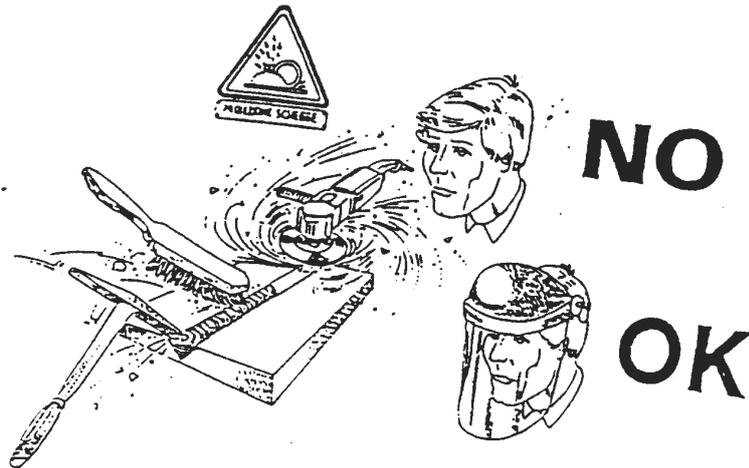

FIG.5
- Always wear protective goggles with transparent lenses to prevent splinters or other foreign particles from harming the eyes (Fig. 5).